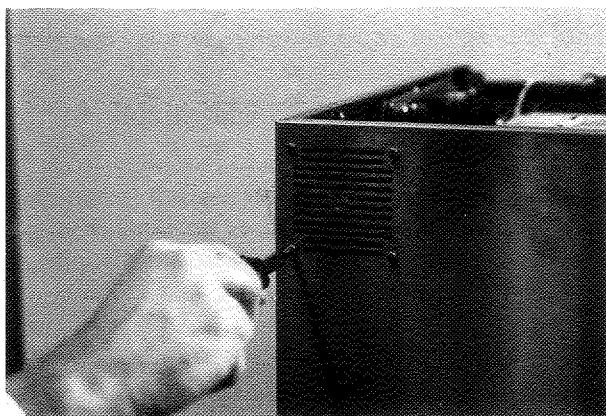

Figure 10
4. Remove the nuts from the 4 screws holding the fan to the cabinet. (See Figure 10)